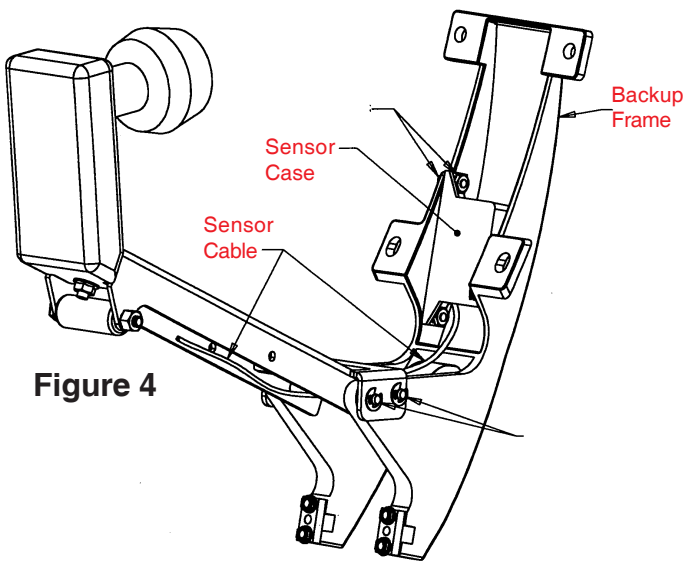

Figure 4
Step 3. Figure 4. To install Sensor with your RM model, remove dish from backup frame. Place Sensor inside backup frame, Figure 4. Cable must exit from bottom of Sensor. Route under pins, refer to Figure 4. Be sure sensor case is placed so mounting screws are completely in slots. Fasten Sensor case to frame, being careful not to overtighten screws. Secure Sensor cable to coax with wire ties. **Go to Step 9.**